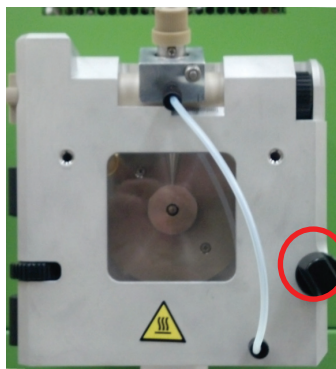

Figure 10 Probe plate captive screw
6. Place the Probe plate back onto the Source housing hinges, close the plate, and secure the plate to the housing via the Screw on the bottom right of the Probe plate (Figure 10)